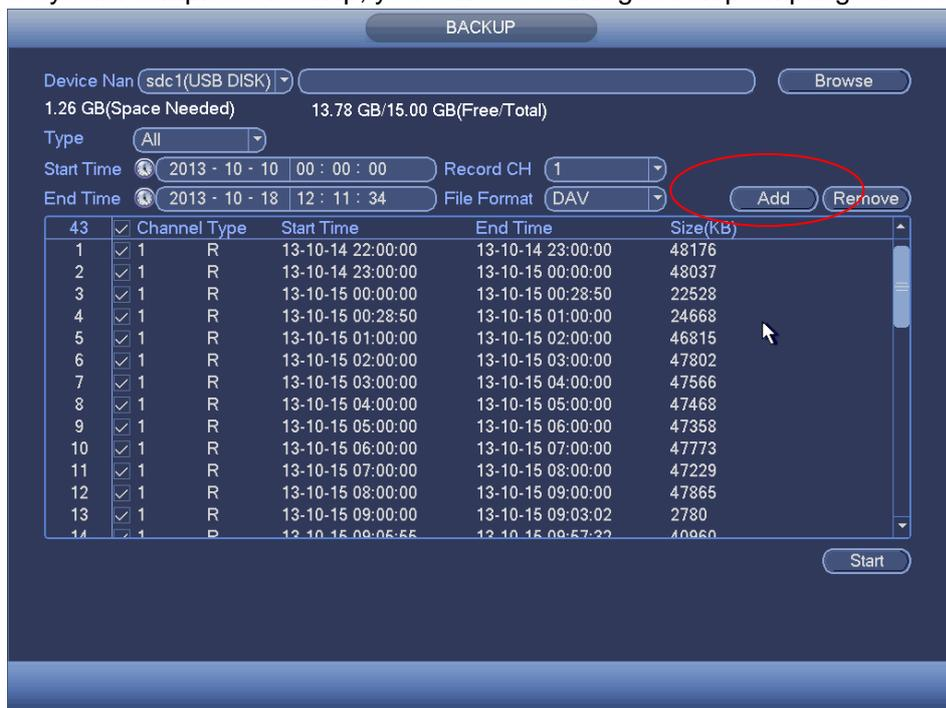

Figure 2-224
- d) Click add button, system begins search. All matched files are listed below. System automatically calculates the capacity needed and remained. See Figure 2-224.